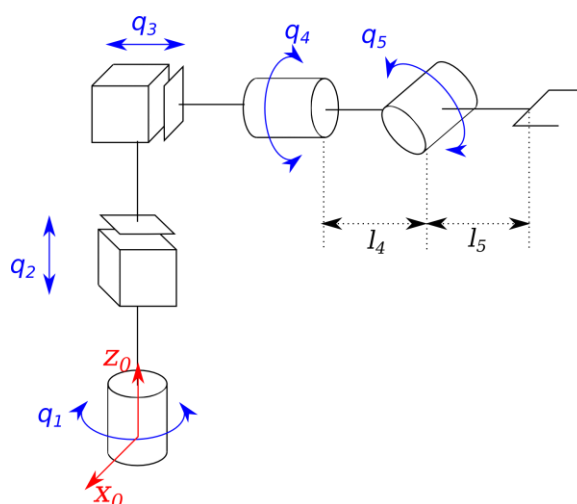

Figure 2
- c) For the manipulator below (Fig. 2) place the frames and provide the respective table of DH parameters. [12]